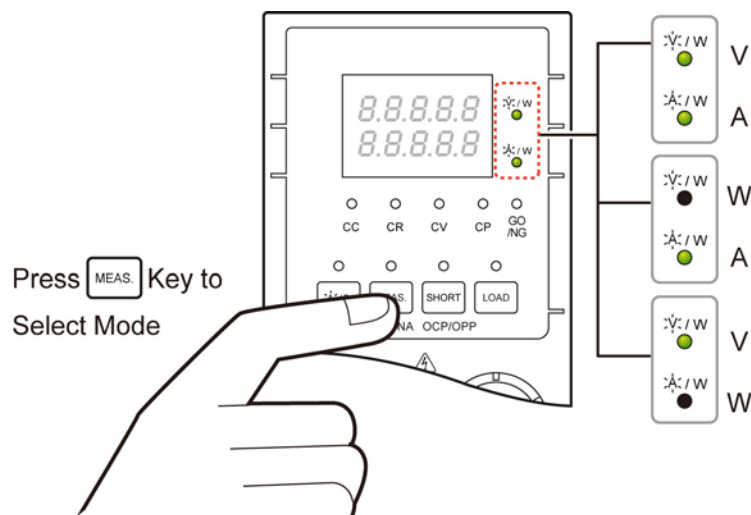

Figure 4-10 7-Segment Display for MEAS. V / A / W Switch
Pressing the **MEAS.** key can switch the measurement modes via the 7-segment display. There are 3 types of measure modes - Mode 1: Voltage (V) and Current (A); Mode 2: Power (W) and Current (A); Mode 3: Voltage (V) and Power (W), see Figure 4-10.